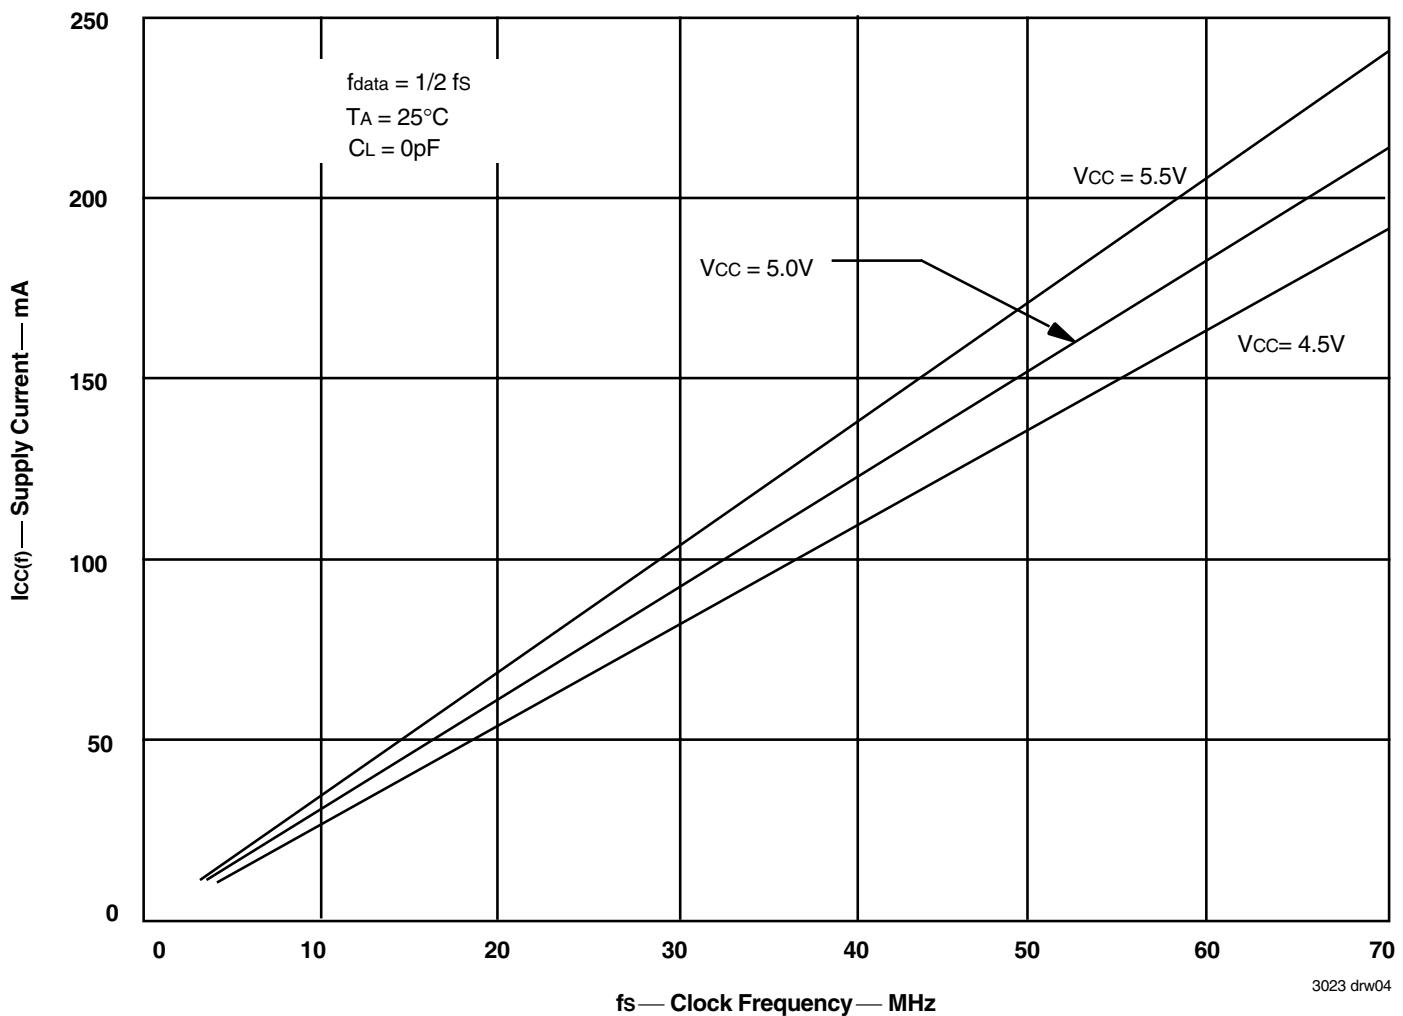

Figure 1. Typical Characteristics: Supply vs Clock Frequency
The  $I_{cc}(f)$  current for the graph in Figure 1 was taken while simultaneously reading and writing the FIFO on the IDT723641 with CLKA and CLKB set to  $fs$ . All data inputs and data outputs change state during each clock cycle to consume the highest supply current. Data outputs were disconnected to normalize the graph to a zero-capacitance load. Once the capacitance load per data-output channel and the number of IDT723631/723641/723651 inputs driven by TTL HIGH levels are known, the power dissipation can be calculated with the equation below.
With  $I_{cc}(f)$  taken from Figure 1, the maximum power dissipation (PT) of these FIFOs may be calculated by: